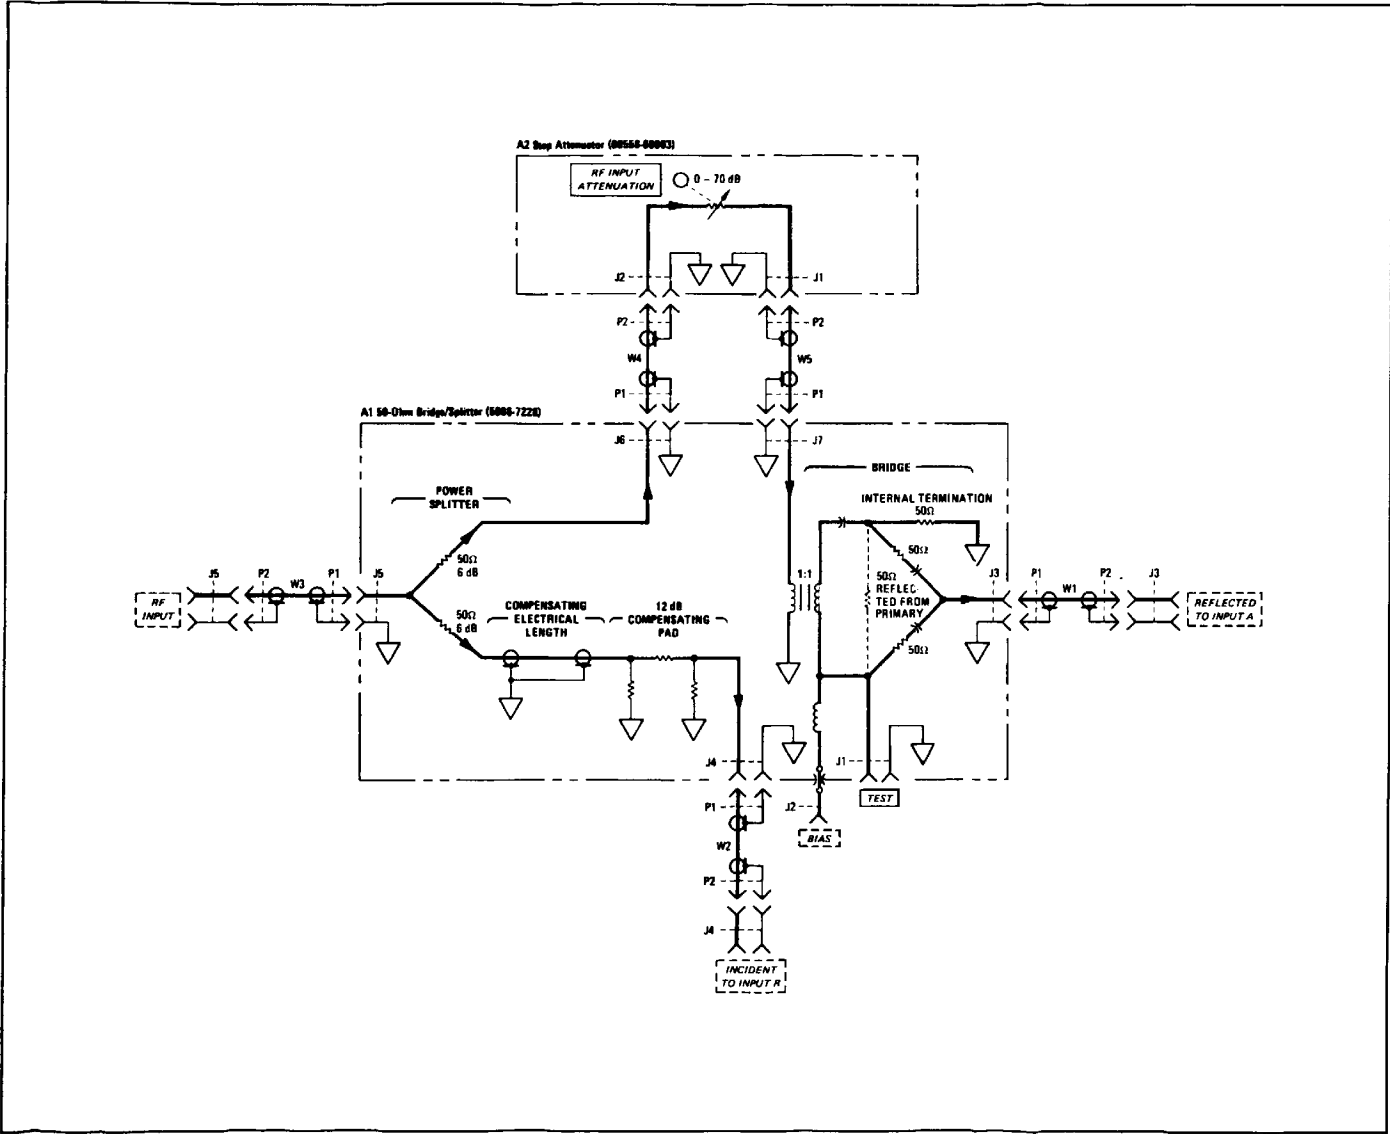

Figure 27. Model 8502A Transmission/Reflection Test Set Equivalent Circuit
- 72. A troubleshooting flow diagram (Figure 26) provides a step-by-step procedure to isolate the cause of malfunction and identify the defective assembly or component. An equivalent circuit diagram (Figure 27), and major assemblies locator (Figure 28), aid in troubleshooting to the component level.